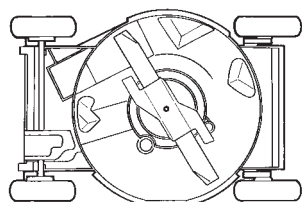

Figure 22
4. Tip the lawn mower on its **left** side (air filter up) (Fig. 22).